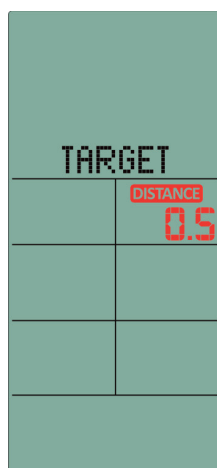

Figure 42
- Press the TARGET DISTANCE button to enter this mode, and the matrix will display 'TARGET' continuously (Figure 42).